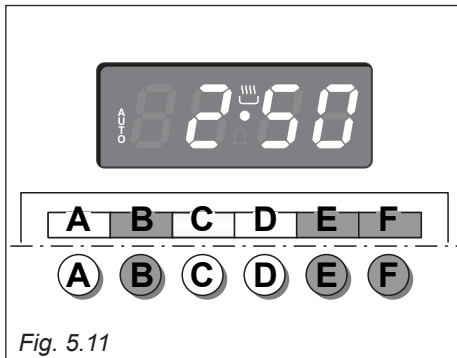

Fig. 5.11
1. Set the length of the cooking period by pushing the "B" button and the "F" button to increase or "E" to decrease if you have passed the desired time (fig. 5.11). The **AUTO** and the  symbol will illuminate.